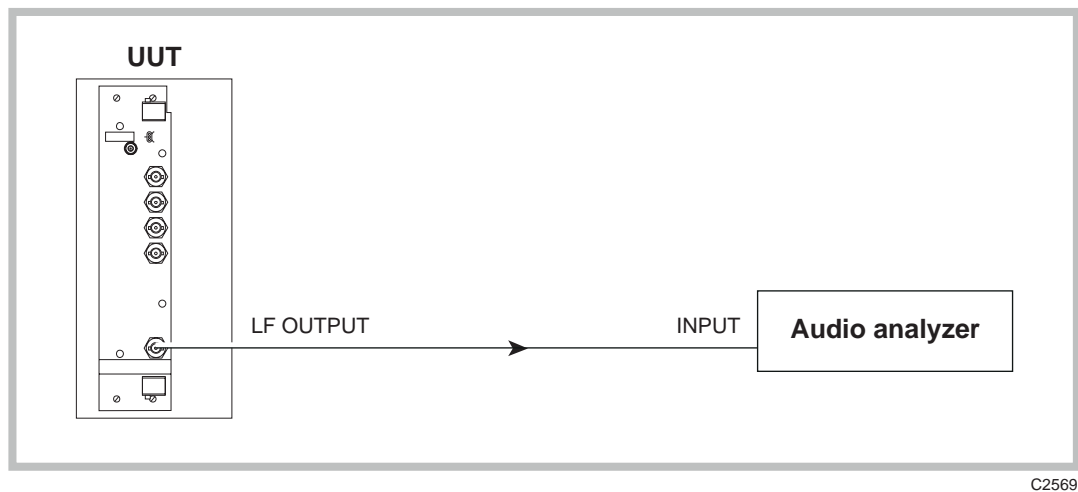

Fig. 5-14 Modulation oscillator distortion test set-up
- (1) Connect the test equipment as shown in Fig. 5-14.
- (2) On the UUT set: